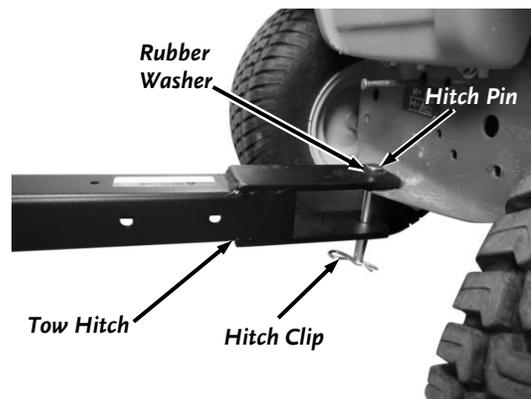

Figure 58
1. Position the back Hitch Plate of your Mower near the Hitch of the PRO MAX450™ LEAF and LAWN VACUUM on level ground (**Figure 58**).